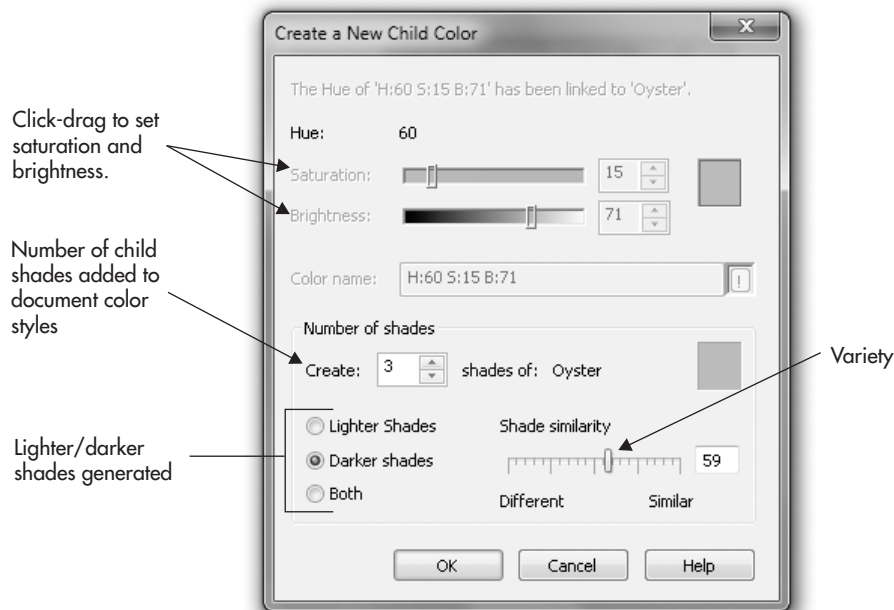

FIGURE 17-6
3. With your style selected in the list, click the New Child Color(s) button in the docker to open the Create A New Child Color dialog, shown in Figure 17-6.